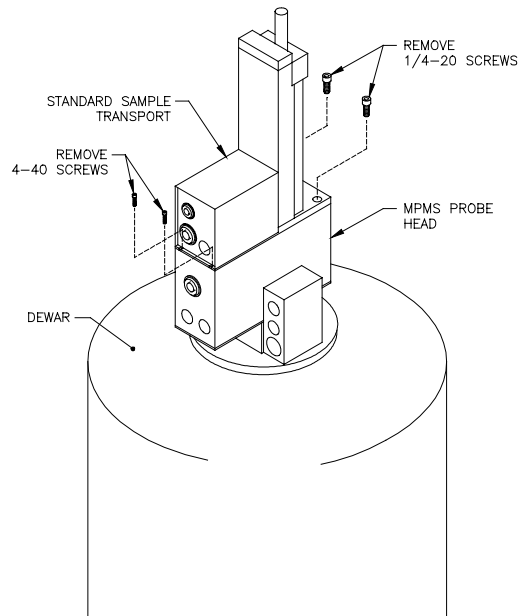

Figure 21. The standard sample transport.
5. Remove the two large mounting screws in the front and the two small screws on the backside of the sample transport (**Figure 21**). Keep these screws with the standard sample transport.